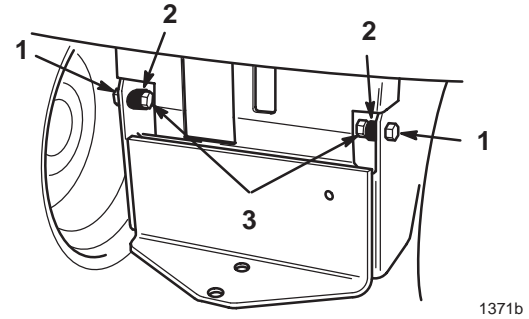

Figure 6
1. Mount two spacers against inside of tractor frame with (3/8" x 1-3/4") bolt and nut (Fig. 6).